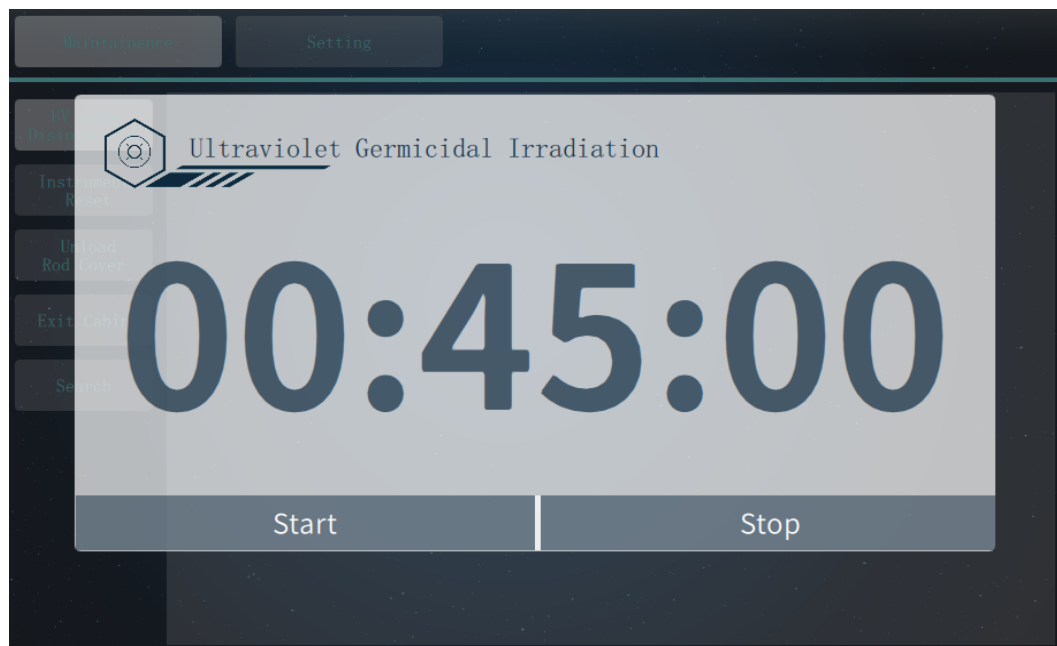

Figure 5-13a. Maintenance Subtab - UV Lamp Disinfection
1. < **UV Lamp Disinfection** >: User click this function key, the PANA system software will automatically pop up the UV lamp disinfection window, and user can click **Start** and **Stop** to start or end the UV lamp disinfection process, as shown in figure 5-13a.